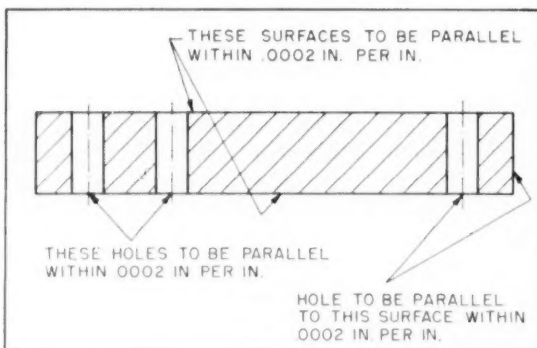

Fig. 17. Tolerances relative to parallelism are specified by notes.
**Parallelism Tolerances**—The tolerances relative to parallelism are specified by notes. The tolerance is expressed in terms of the linear deviation from parallelism per inch, as shown in Fig. 17 below.